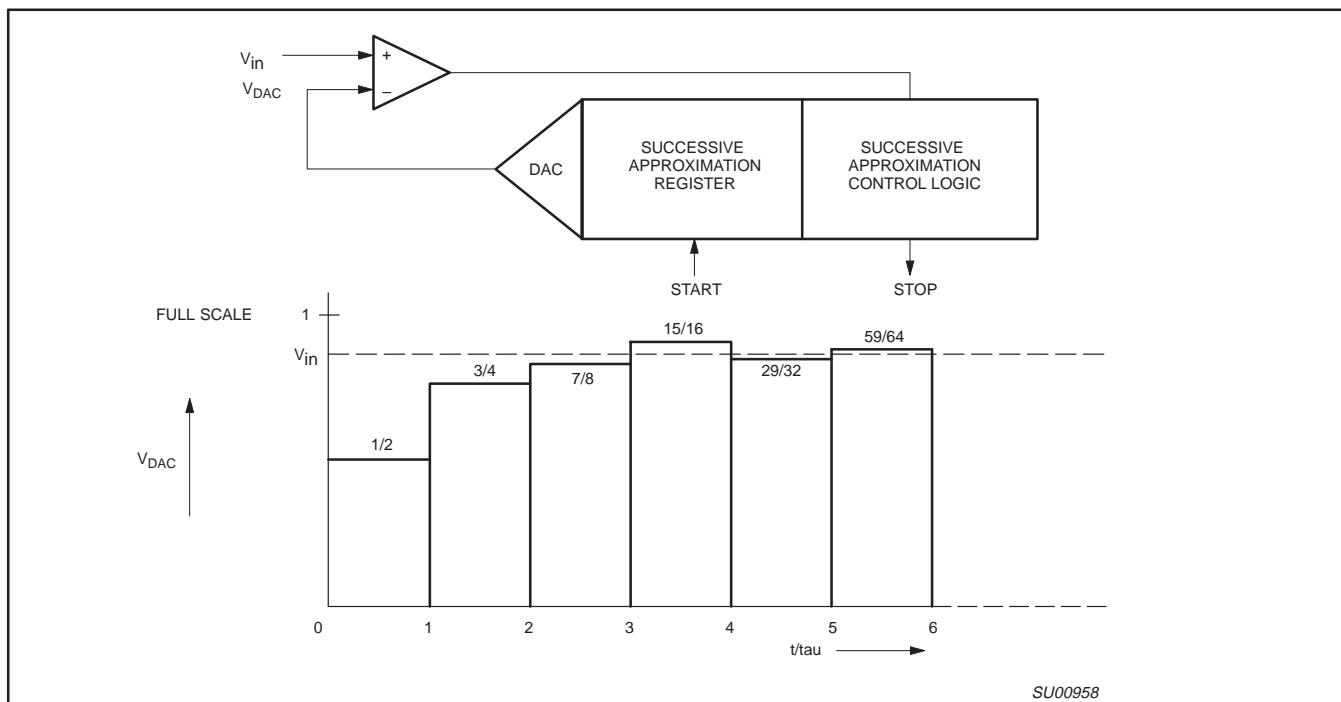

Figure 20. Successive Approximation ADC
**10-Bit Analog-to-Digital Conversion:** Figure 20 shows the elements of a successive approximation (SA) ADC. The ADC contains a DAC which converts the contents of a successive approximation register to a voltage (VDAC) which is compared to the analog input voltage (Vin). The output of the comparator is fed to the successive approximation control logic which controls the successive approximation register. A conversion is initiated by setting ADCS in the ADCON register. ADCS can be set by software only or by either hardware or software.